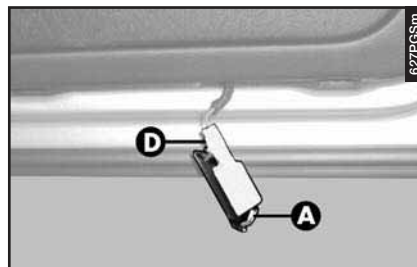

fig. 78
- Remove the light pushing with a screwdriver on the tab (**A-fig. 78**).
- Re-install the light inserting it firstly on one side (**D-fig. 78**) and then pushing on the other until the tab clicks.